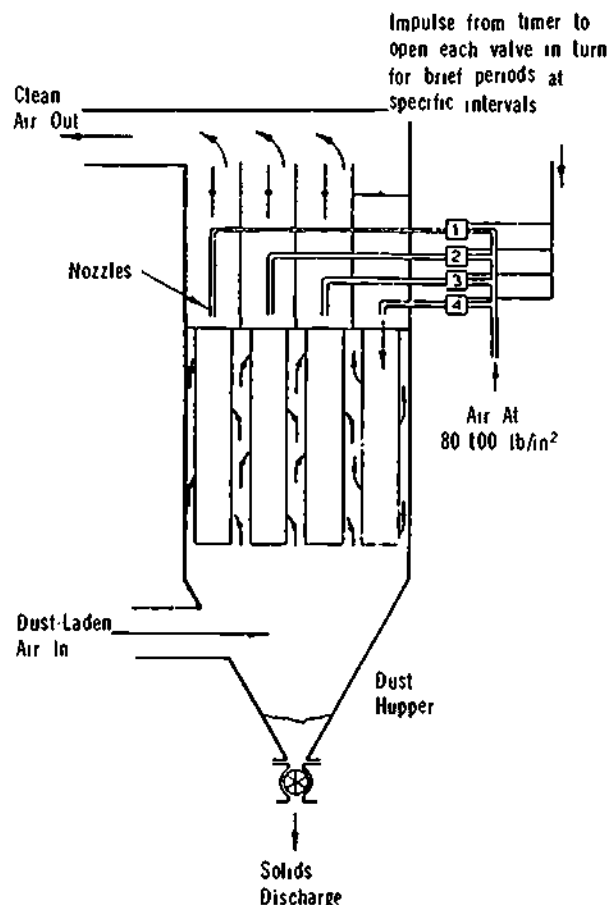

Figure 11-18. Bag Filter with Reverse High-Pressure Jet
2. **Reverse Jet Cleaning, Internal High-Pressure Jet** This is accomplished by means of sequence opening and closing of dampers in the various main gas flows, and the associated high-pressure jets shown in Figure 11-18. The entire surface of the bags can be continuously clean.